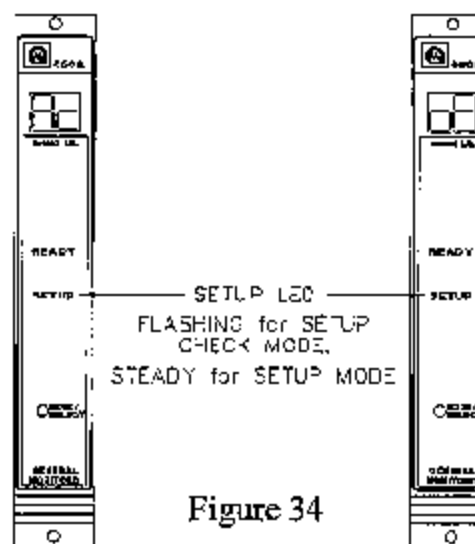

Figure 34
- Next, the display will indicate the alarm output option during a Card Test as either **Ac**, active or **na**, not active. (figure 34). Not Active is the factory default for this selection.